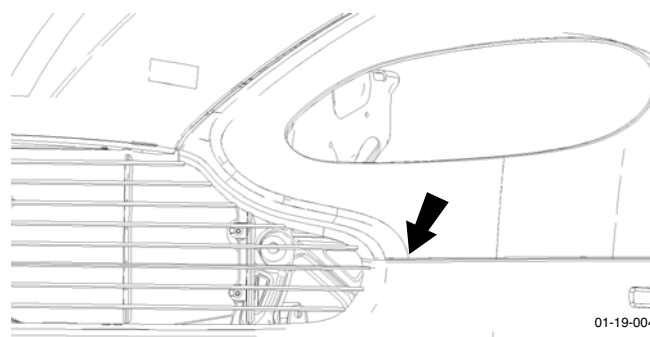

Figure 3
10. With assistance, release bumper from clips (x2) and remove bumper (see Figure 3).